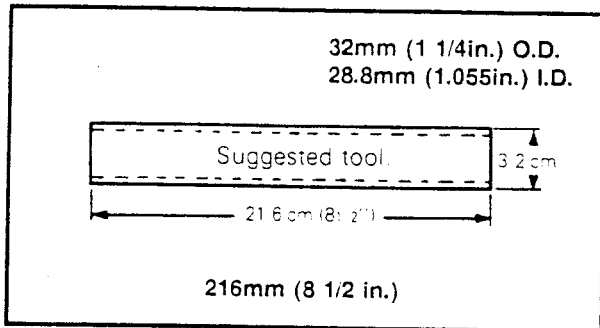

Figure 5-31. Steering bearing Installation Tool
Fabricated tool - See Figure 5-31	None
3. See Figure 5-31. Install a new lower bearing using a cylindrical steel tube or other tool to avoid bearing damage.